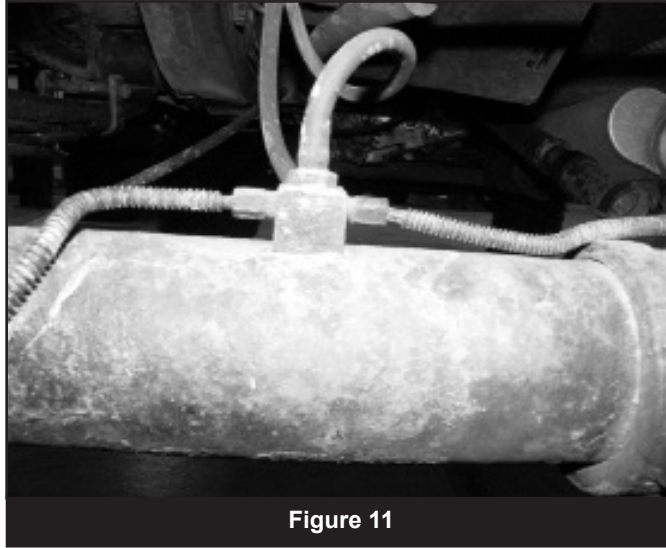

Figure 11
56. Unbolt brake line junction block from axle. Retain bolts. (Fig 11)